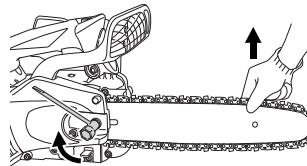

Fig. 7
- Raise the bar end and securely tighten the guide bar clamp nut with the combi box spanner. (**Fig. 7**)